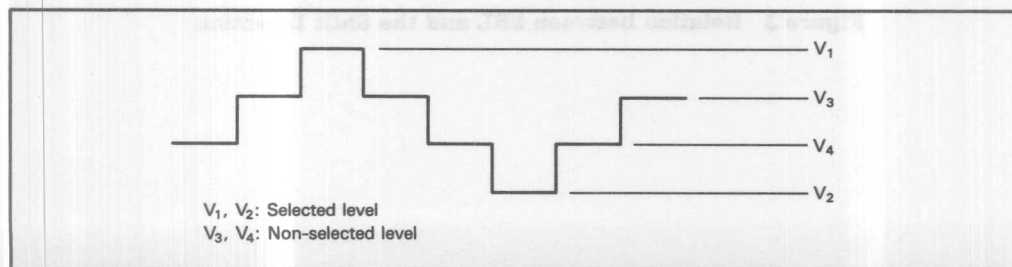

Figure 2 Power Supply for Driving an LCD
**V1, V2, V3, and V4:** V1 to V4 supply power for driving an LCD (figure 2).
**Y1-Y80:** Each Y outputs one of the four voltage levels-V1, V2, V3, or V4-according to the combination of M and display data (figure 2).